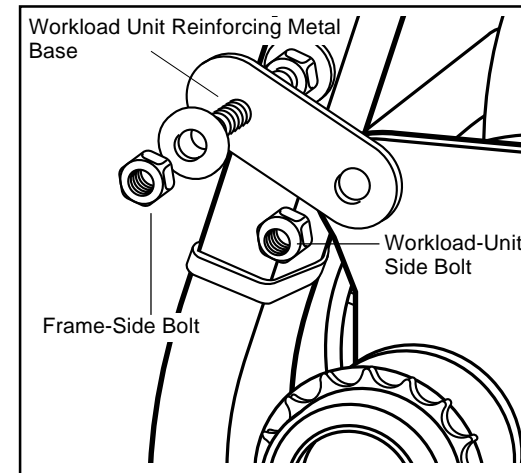

Fig. 8
7. Assemble the workload reinforcing metal base in between the bolts at the workload side and the frame side, and tighten the bolts with nuts. (Fig. 8)